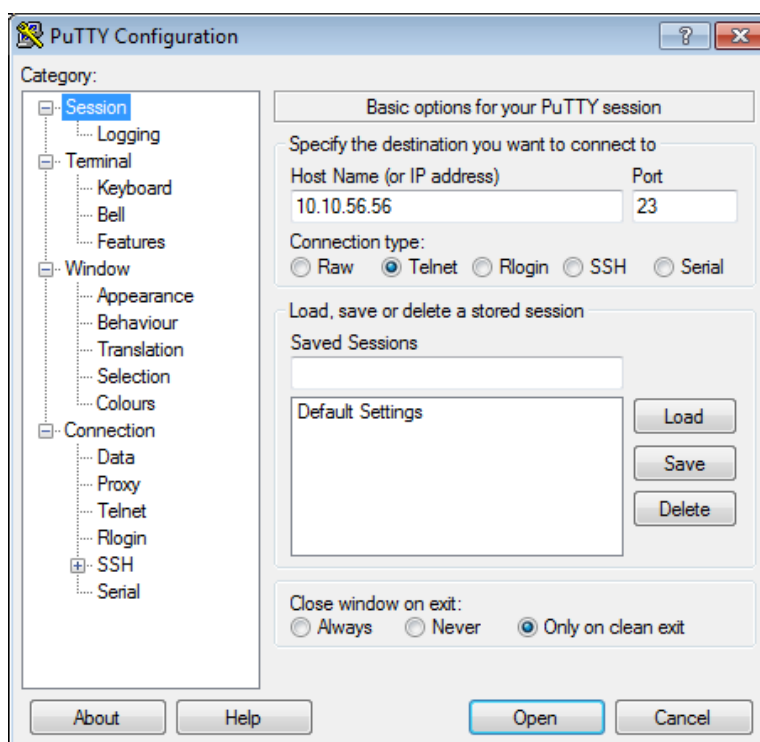

Figure 7-1: Using PuTTY terminal emulation software – selecting and configuring a Telnet connection
- 2- Start PuTTY, select a **Telnet** connection and enter the IP address (**Host Name (or IP address)**) of the CPUM card, as shown in Figure 7-1. (Telnet always uses TCP port number 23 (**Port**).)